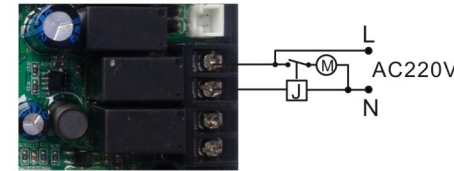

Figure 9
F. Power supply greater than 5A air pump wiring as figure 9 shows :